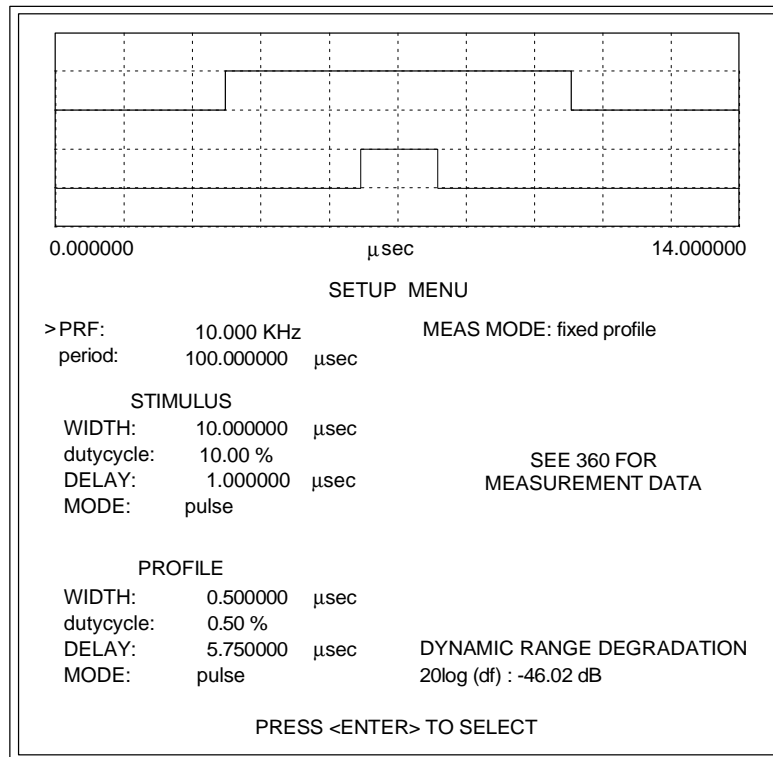

Figure 3-15. Setup Menu Display (Fixed Profile Pulse Measurement)
To perform a fixed profile pulse measurement, you first need to enter pulse parameter data and change settings in the Setup Menu (Figure 3-15) as follows:
During fixed profile pulse measurement, the Setup Menu shown in Figure 3-15 remains displayed on the computer/controller's monitor. You can exit the Setup Menu in one of two ways; (1) press the ESC key to return to the previous menu, or (2) press the function key F2 to display the Main Menu.